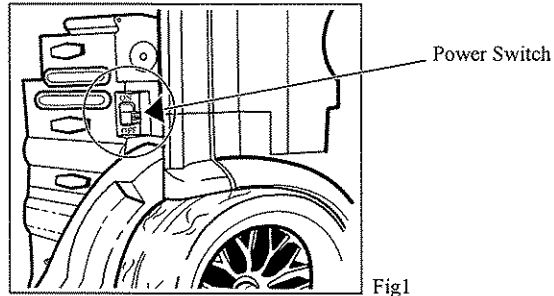

Fig1
- 1) Turn the power switch on V Bot's back thigh into OFF position. (See Fig. 1)